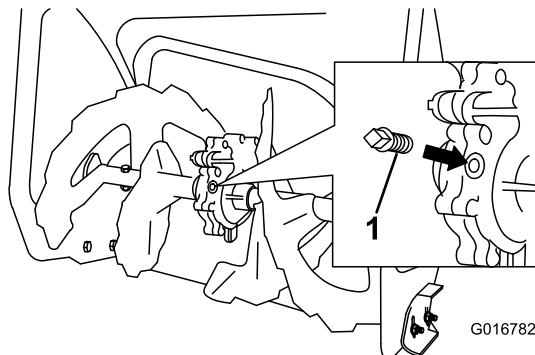

Figure 50
- Clean the area around the pipe plug (Figure 50).